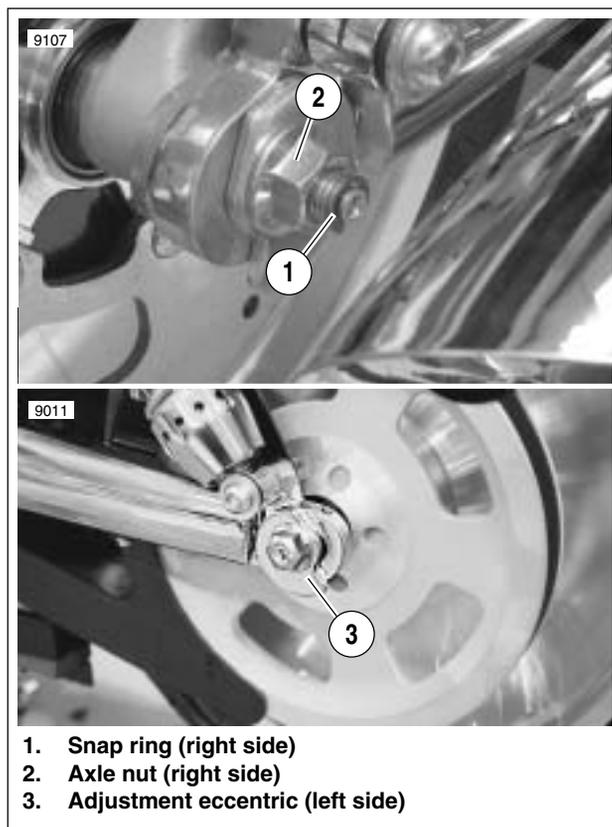

Figure 1-38. Axle Adjusters
4. If belt adjustment is necessary, see Figure 1-38. Remove snap ring (1) and loosen axle nut (2) on right side of motorcycle.